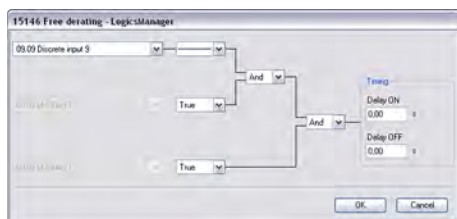

Fig. 203: LogicsManager function "Free derating"
3. Configure the LogicsManager function "Free derating" as shown in (Fig. 203) to enable derating of power if discrete input [DI 09] is energized.